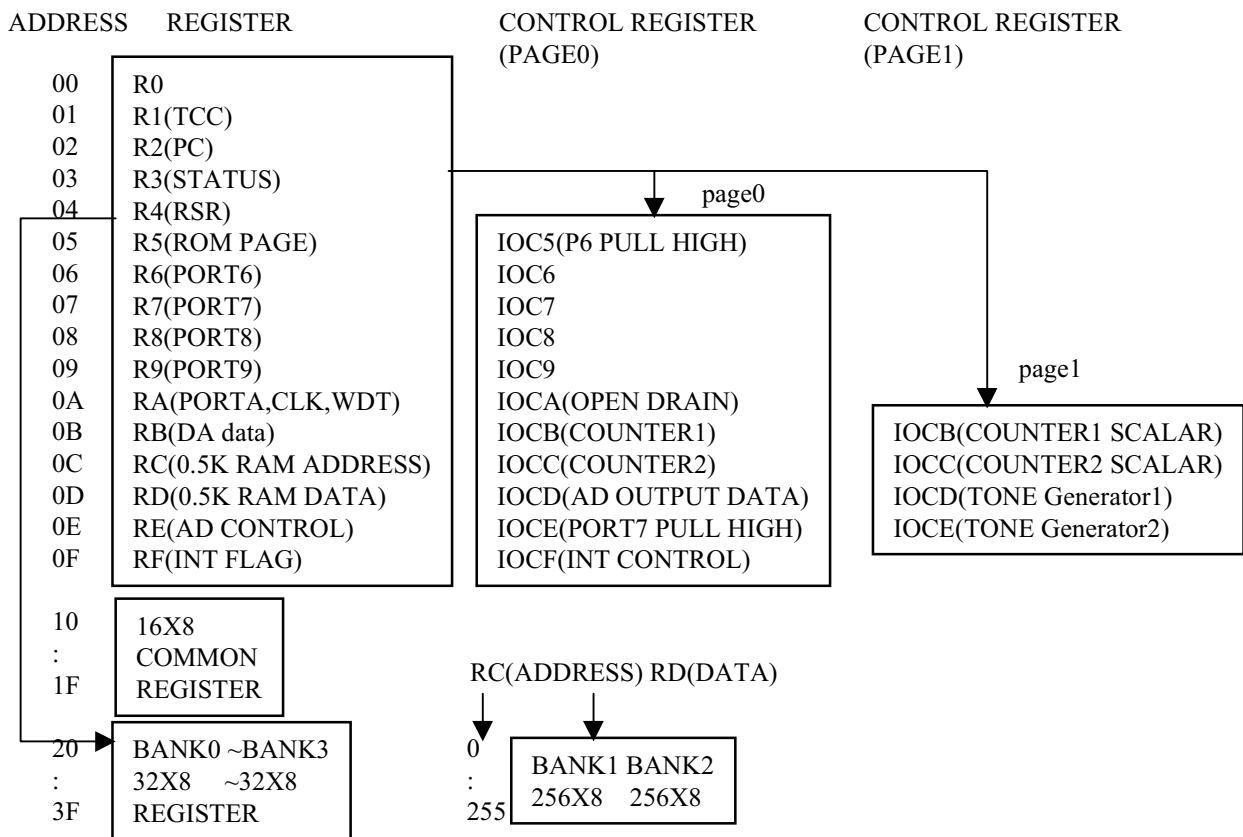

Fig.4 Data memory configuration
- * See the configuration of the data memory in Fig. 4.